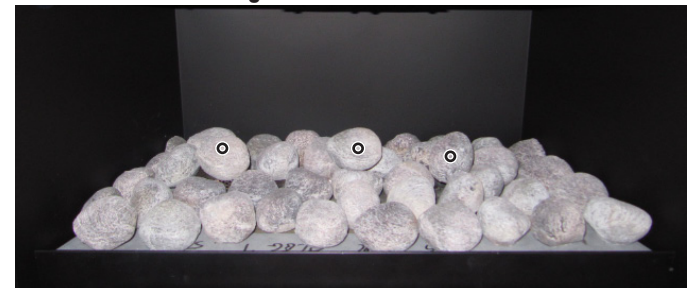

Figure 29d. Placement faux ceramic rocks on second level. Note approximate location and placement.
4. Install remainder of rocks on second level. Place one rock on the Pilot light cover and the remainder covering air intakes. As shown in **Figure 29d**